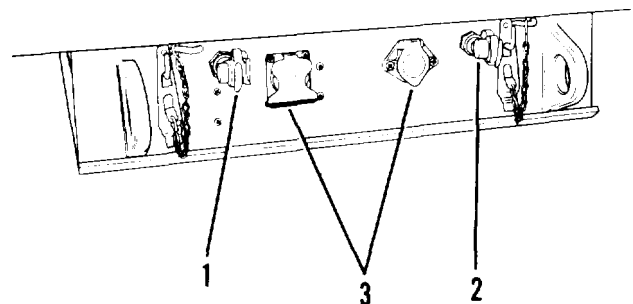

Figure 2-22. Uncoupling semitrailer from towing vehicle
- (1) Close shutoff valves for service and emergency air supply located on the towing vehicle.
- (2) Disconnect both the service air hose and emergency air hose from air hose couplings (1 and 2, figure 2-22).
- (3) Disconnect electrical cable from connector (3).